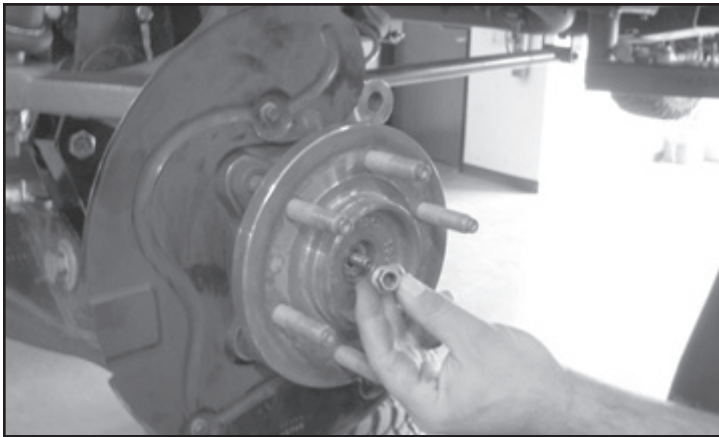

FIGURE 36 - STEP 42
42. Install the dust shield and torque to 14 ft-lbs. Install CV shaft nut and torque to 35 ft-lbs. Install the factory dust cover. **SEE FIGURE 36**